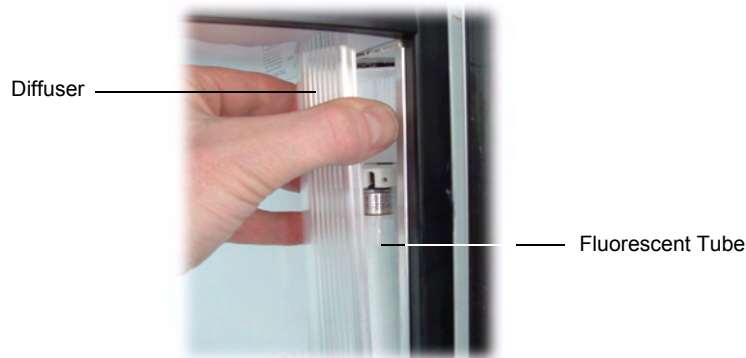

Figure 10: Replacing the Fluorescent Tube
2. Remove the side light diffuser, by compressing the back section of the diffuser until it disengages from the aluminium housing and then push the diffuser back (see Figure 10 below).
2. Start at one of the top corners of the sign unit and pull the sign panel out from under the sign top cover (see figure 10 on next page).